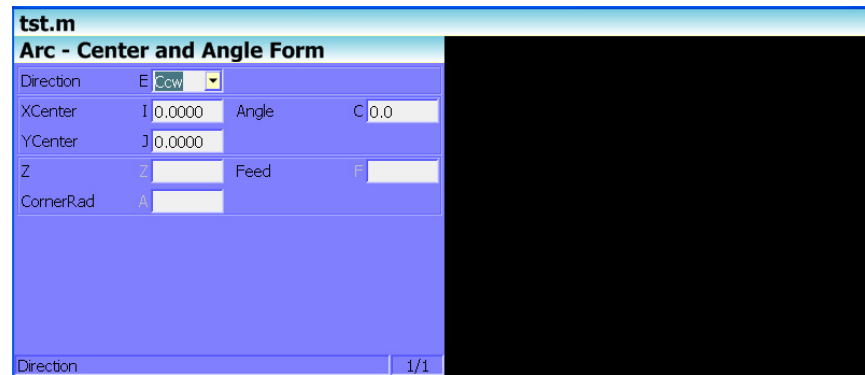

Figure 3-19, Arc – Center and Angle Graphic Menu
Refer to **Figure 3-19**.
3. Highlight **Arc – Center and Angle Form** and press **ENTER** to display the graphic menu. Refer to **Figure 3-19**.